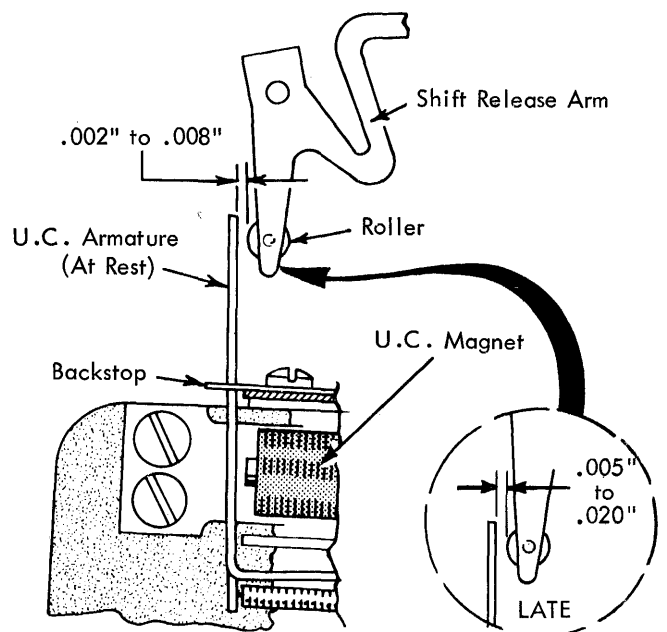

FIGURE 81. U.C. Armature Backstop
- 7. UC Armature Backstop, 15 Inch Machine (Early) Fig. 81) - Position (armature at rest) so that the UC armature clears the release arm roller by .002" to .008".
- 7.1. UC Armature Backstop (Late) (Fig. 81) - Position armature backstop (armature at rest) so that the UC armature clears the release arm roller by .005" to .020".